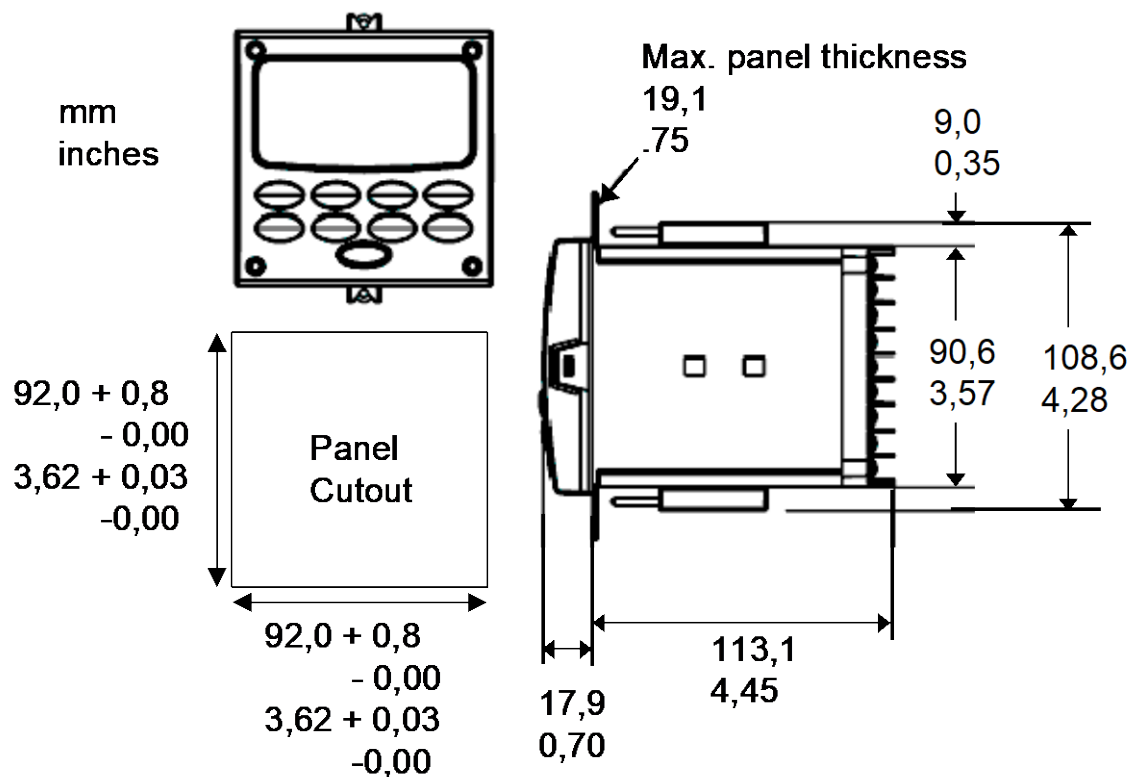

Figure 2-2 Mounting Dimensions (not to scale)
- Overall dimensions and panel cutout requirements for mounting the controller are shown in Figure 2-2.
1	Mark and cut out the controller hole in the panel according to the dimension information in Figure 2-2.